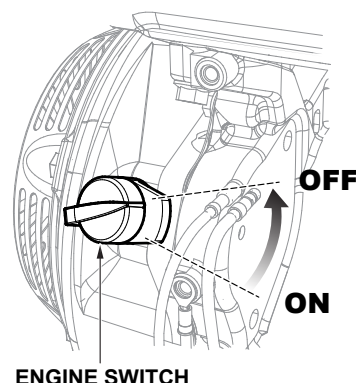

Figure 33. Engine ON/OFF Switch (OFF)
2. Turn the engine ON/OFF switch (Figure 33) to the **OFF** position.